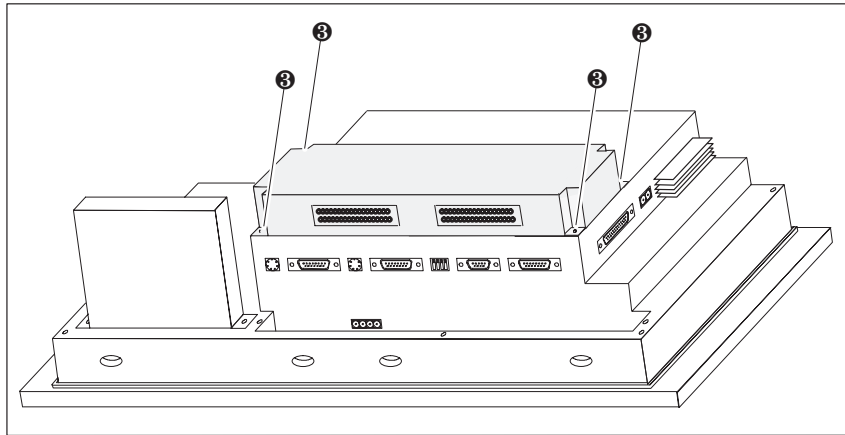

Figure 18-10 Securing the control panel interface to the OP (example OP37)
4. Use the four screws supplied **3** to secure the control panel interface to the OP (see Figure 18-10).